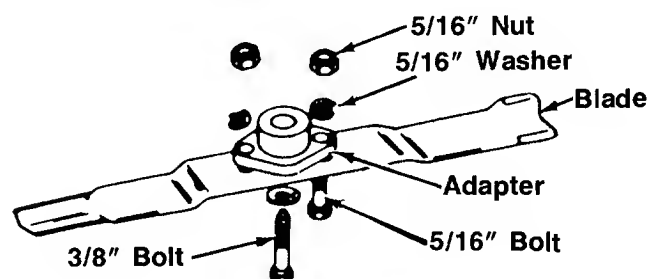

FIGURE 16.
1. Remove the large bolt and lock washer which holds the blade and adapter to the blade spindle. See figure 16.
3. If the blade or blade adapter needs replacing, remove the two small bolts, lock washers and nuts which hold the blade to the adapter. See figure 16.